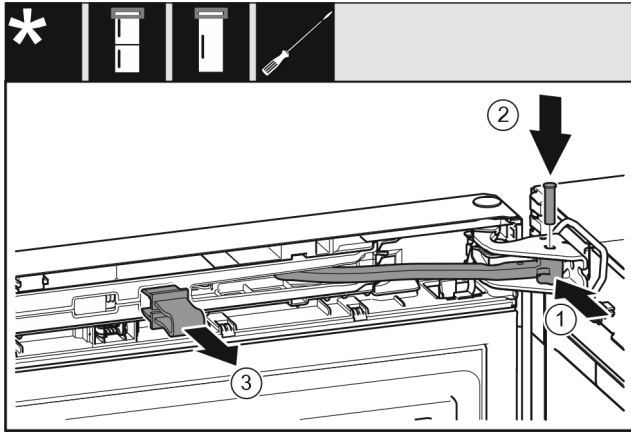

Fig. 24
- Turn the joint Fig. 24 (1) in the bearing block.
- Insert thebolt Fig. 24 (2) into the bearing bracket and joint. Ensure that the latching cam is in the groove properly.
- Remove the safeguard Fig. 24 (3).